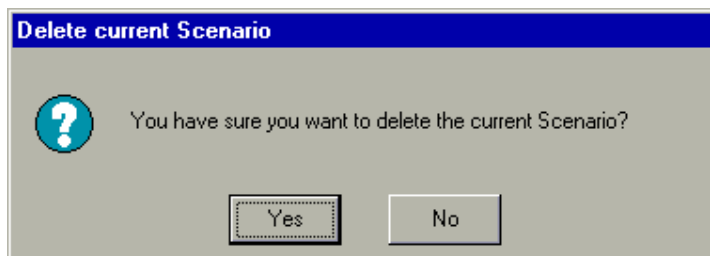

Figure 12.68
- b. A message box will appear (Figure 12.68).